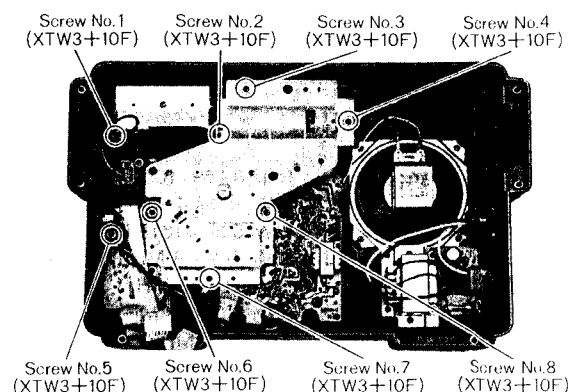

Fig. 3
2. Remove the two (2) screws (nos. 1 & 2) for the frequency counter, as shown in fig. 3.
3. Remove the six (6) screws (nos. 3~8) for the dial scale chassis, as shown in fig. 3.